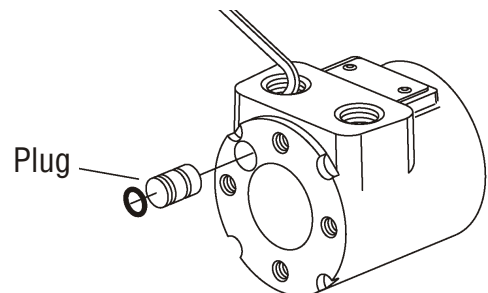

Figure 5-27, Housing Plug
- A metal plug, with seal, plugs a machining hole in the housing. It is not necessary to remove the plug and replace seal unless leakage occurs around the plug. To remove the plug, insert a 5 mm (.187 in.) hex key through the port opening and push it out. (Figure 5-27)